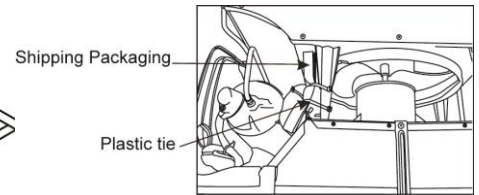

Fig.7
- If the unit comes with internal packaging it must be removed prior to installing the air conditioner back into the cabinet. (Figure 7)